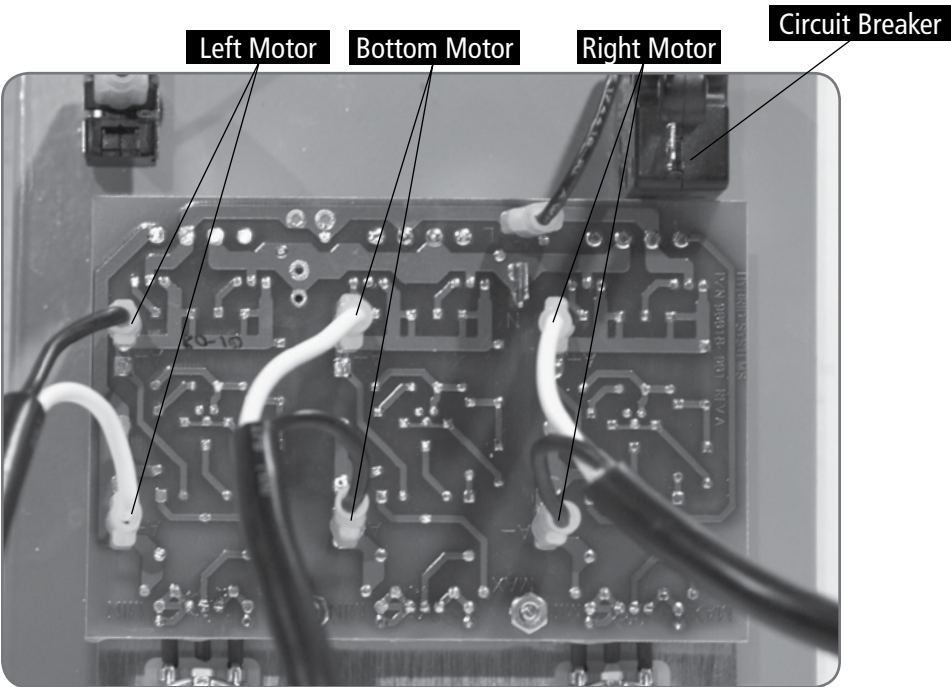
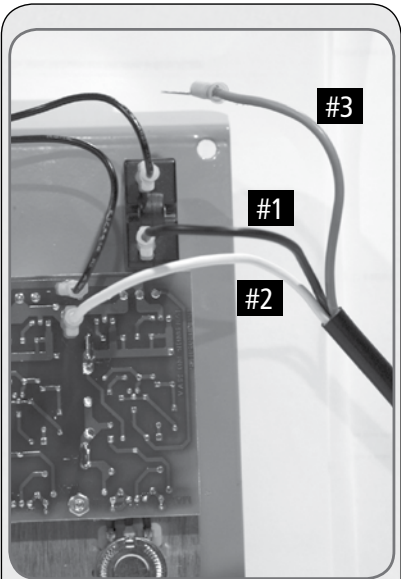

Figure 12 Wiring diagram for all three motors.
Figure 13
3. Remove four (4) screws holding controller into main casting. Note the position of the motor wires on the controller, then disconnect the wires. See Figure 12 on page 12.
- 2. Remove four screws holding controller faceplate into main casting. Note the position of the main power and motor wires on the controller, then disconnect the wires. See Figure 12 on page 12 for the three motor wires. See Figure 13 on page 12 for the main power cord wires.
Be sure wires are correctly reinstalled. Motor wire connectors are different sizes. Be sure they are installed on the correct size terminal. See Figure 12 for the motor wires and Figure 13 for the power cord wire.